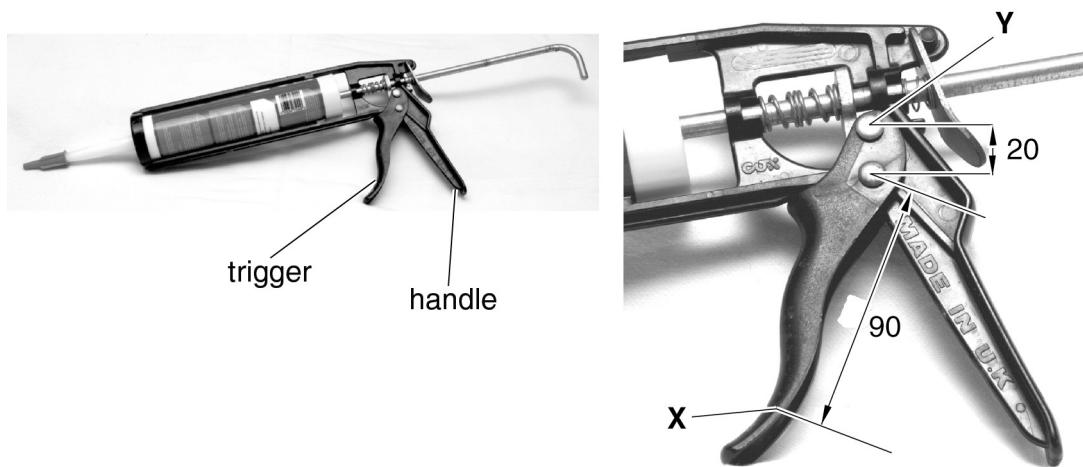

Fig. 6
- (c) Fig. 6 shows a decorators skeleton sealant gun.